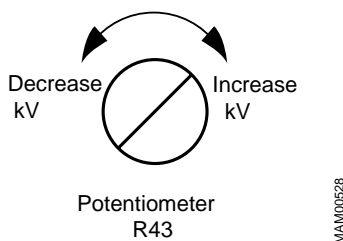

Fig. 2 Calibration potentiometer
7. If necessary, adjust R43 on D702 (Fig. 2) and repeat from step 6.